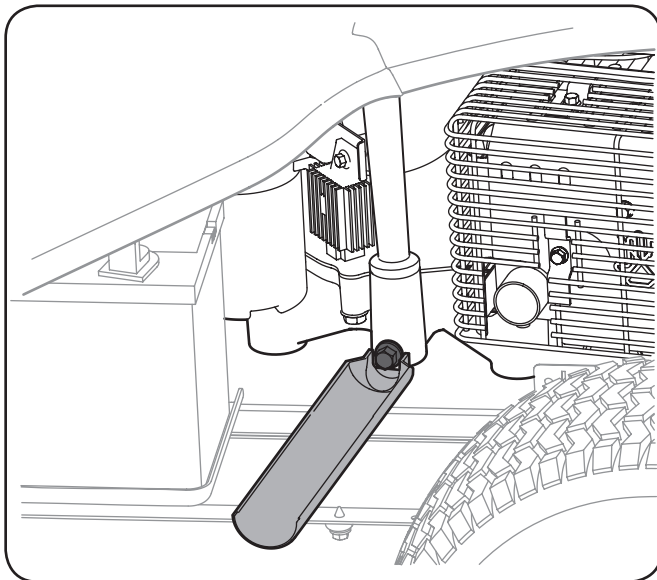

Figure 6-1
4. Snap the small end of oil drain sleeve onto the space provided around the oil drain plug, pressing the sleeve on until the internal rib rests against the engine. See Figure 6-1.